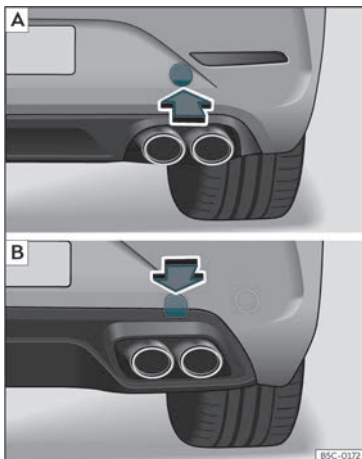

Fig. 49 On the right side of the rear bumper: remove the cover. [A] Leon Sportstourer; [B] Leon.
The housing of the screw towing eye is on the right side of the rear bumper behind a lid >>> **Fig. 49**.
- *Leon Sportstourer*: Press the lower side of the lid >>> **Fig. 49 [A]** to unclip it. *Leon*: Press the upper side of the lid >>> **Fig. 49 [B]** to unclip it.